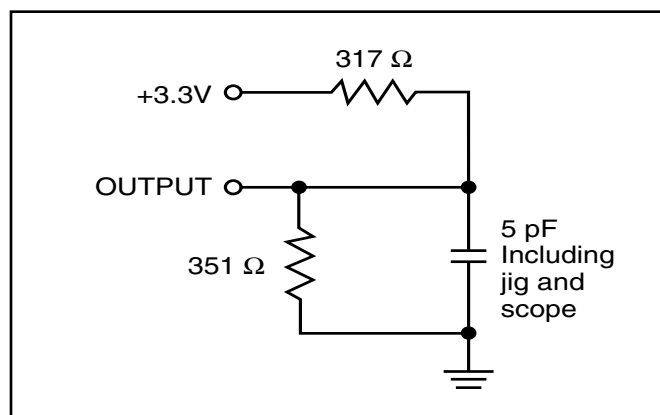

Figure 2
2. Tested with load in Figure 2.